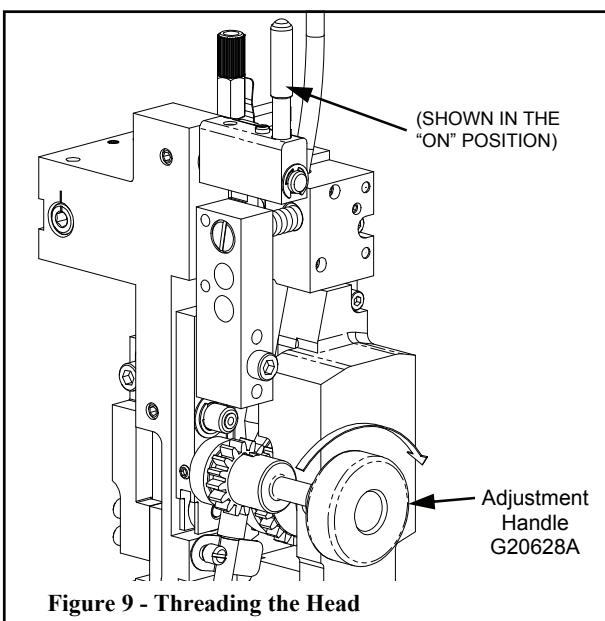

Figure 9 - Threading the Head
3. Disengage the Feed Release Cam. Using a needle-nose pliers, gently guide the wire through the Upper Wire Tube, between the Small and Large Feed Gears and into the Middle Wire Tube Assembly. (Or with the gears remaining engaged, place the Adjustment Handle Assembly over the pins in the Small Feed Gear and rotate clockwise. [See Fig. 9]) Engage the Gears again by turning the Feed Release Cam.